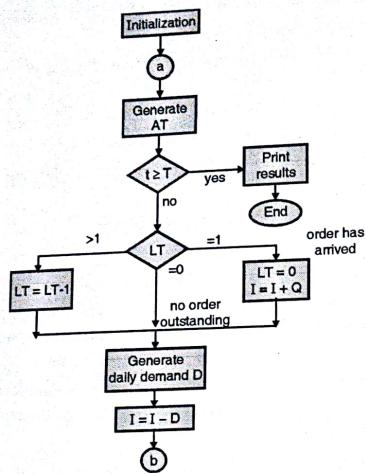

Fig. 2.3.3
- The simulation model is described in the flow chart given in Figs. 2.3.3 and 2.3.4.